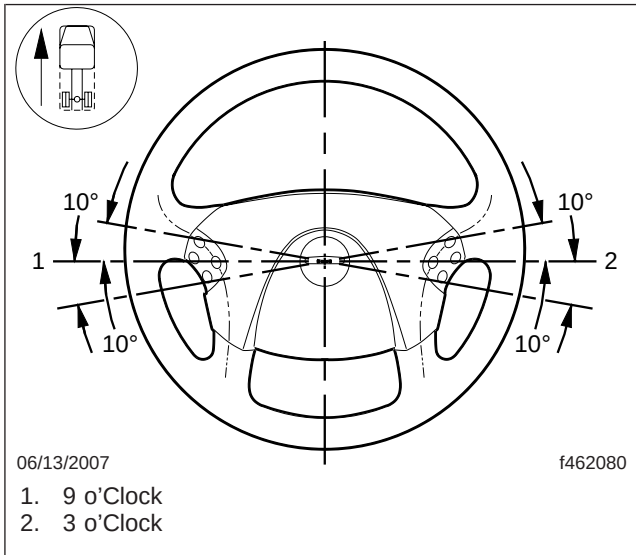

Fig. 3, Steering Wheel Position
2. Make sure that the steering wheel is within ± 10 degrees of center as shown in Fig. 3.